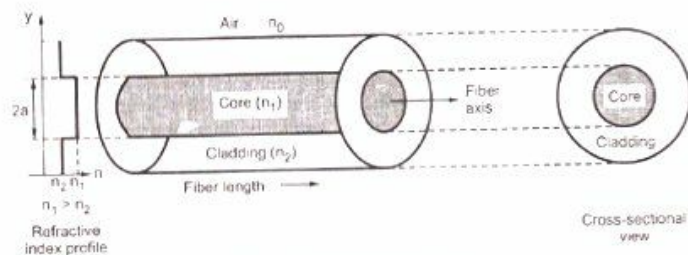

Fig. 1.6.13 Step index fiber
The step index (SI) fiber is a cylindrical waveguide core with central or inner core has a uniform refractive index of  $n_1$  and the core is surrounded by outer cladding with uniform refractive index of  $n_2$ . The cladding refractive index ( $n_2$ ) is less than the core refractive index ( $n_1$ ). But there is an abrupt change in the refractive index at the core cladding interface. Refractive index profile of step indexed optical fiber is shown in Fig. 1.6.13. The refractive index is plotted on horizontal axis and radial distance from the core is plotted on vertical axis.